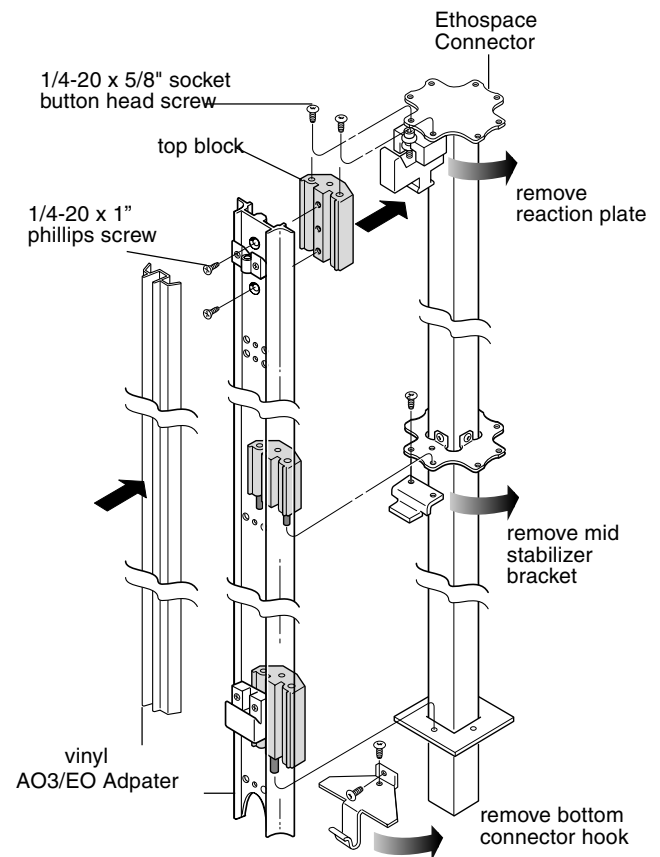

Figure 2
4. From the side of the EO Connector that the AO3/EO Adapter and Series 3 panel will attach, remove the reaction plate, mid stabilizer bracket and bottom connector hook. (Figure 2)
6. Insert *bottom pin block* into the holes on bottom EO connector base plate, aligning mid block pins with COH plate. Install adapter to EO Connector with two 1/4-20 x 1" phillips screws thru the adapter into the top pin block. (Figure 2)